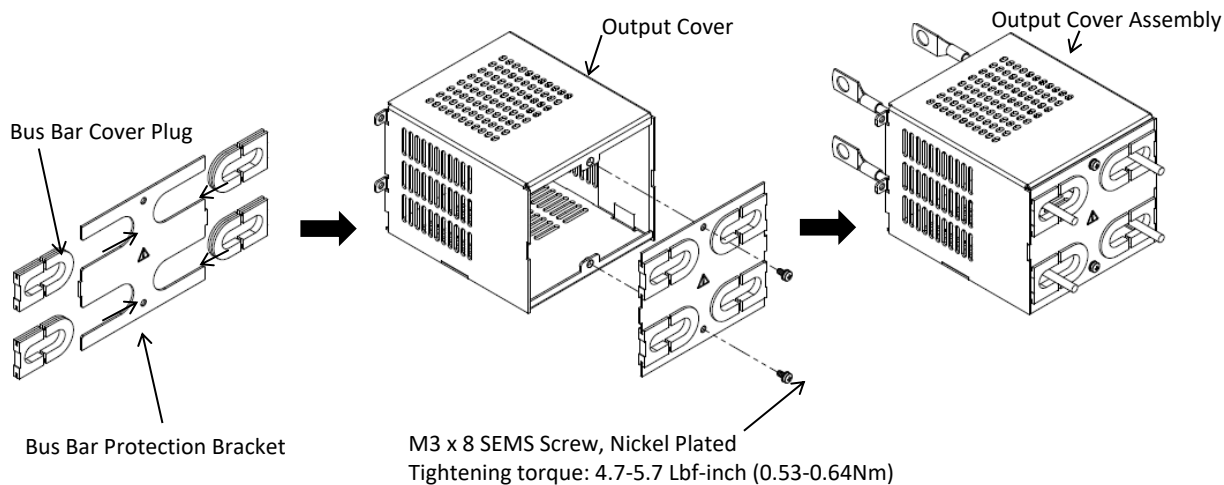

Figure 19: Two 60V-100V Units, Wire Diameter \leq 11mm, Output Cover Assembly
4. For load wires with a diameter smaller than or equal to 11 millimeter insert four bus bar cover plugs into the bus bar protection bracket and fix it to the output cover using two SEMS screw. Insert output cover assembly through the cables as illustrated in Figure 19.